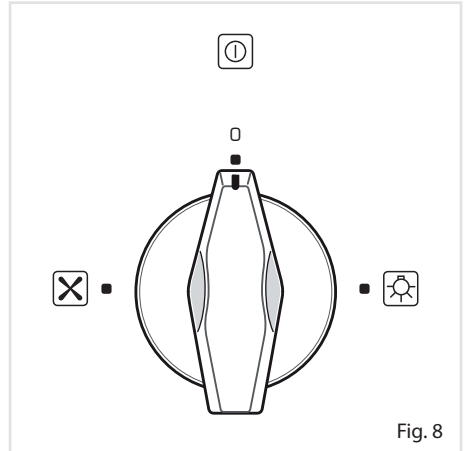

Fig. 8
The fan is controlled by a knob (fig. 8).
- To operate the fan motor turn the knob indicated in fig. 8 to position .
To light the oven lamp turn the knob indicated in fig. 8 to position .